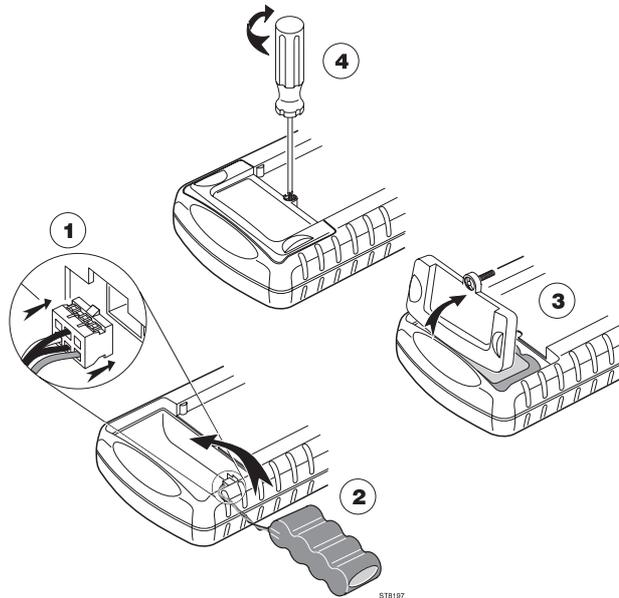

Figure 6-5. Battery pack installation
11. Install the battery pack, and the battery door, see figure 6-5.